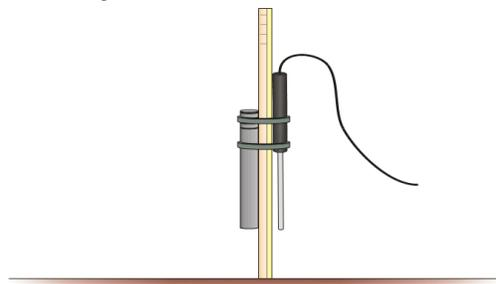

Figure 1
9. Return to your first location. Fasten the Light Sensor to a ruler using two rubber bands. Slide the Temperature Probe under the rubber bands on the other side of the ruler as shown in Figure 1. Both probe tips should be at the 5 cm mark on the ruler. Uncover the tip of the Light Sensor.